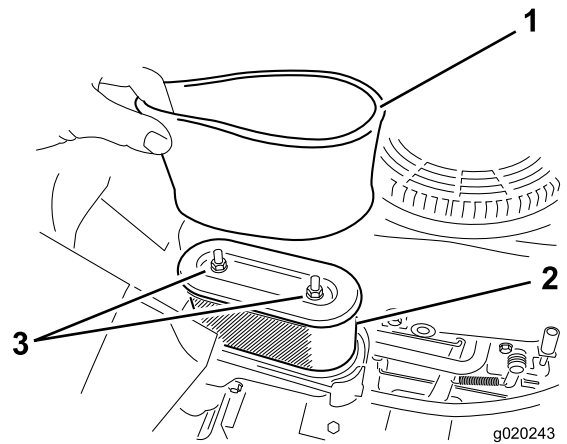

Figure 31
5. Carefully remove the foam and paper filter elements from the air-cleaner housing (Figure 31).
Note: If it is very dirty, replace the paper element (Figure 31).
1. Install the foam filter onto the paper filter (Figure 31).